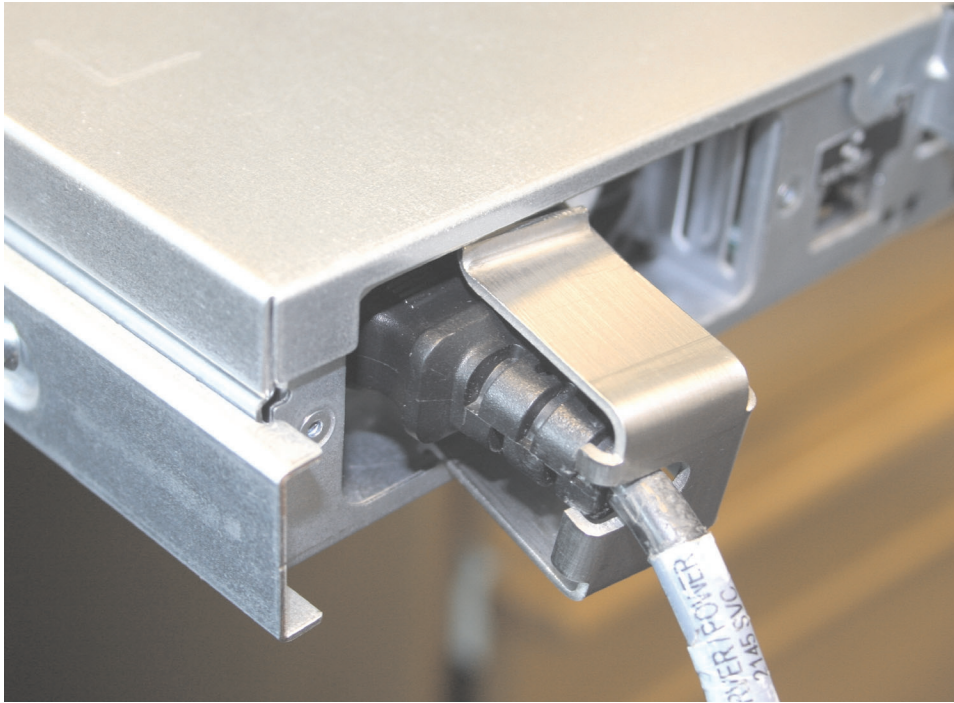

Figure 26. Installing the SAN Volume Controller 2145-8A4 cable retention bracket
5. Place the bottom lip of the retention bracket in the node chassis as shown in Figure 26 on page 43. Turn the bracket at a slight angle, squeeze the top and bottom together, and position the top lip in place behind the chassis backplane.